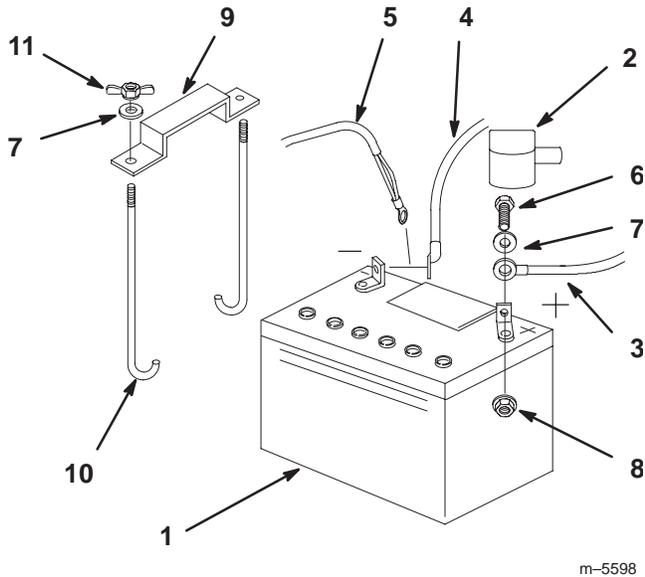

Figure 49
- Position battery in tray with terminal posts toward the engine (Fig. 49).
- Secure cables with 2 bolts (1/4 x 3/4 in.), 2 washers (1/4 in.), and 2 locknuts (1/4 in.) (Fig. 49).
6. Secure battery with J-bolts, hold down clamp and 2 washers (1/4 in.), and 2 wing nuts (1/4 in.) (Fig. 49).
3. First disconnect the negative battery cable and ground wire from the negative (-) battery terminal (Fig. 49).
4. Slide the red terminal boot off the positive (red) battery terminal. Then remove positive (red) battery cable (Fig. 49).
5. Remove both wing nuts (1/4 in.) securing the battery clamp (Fig. 49).